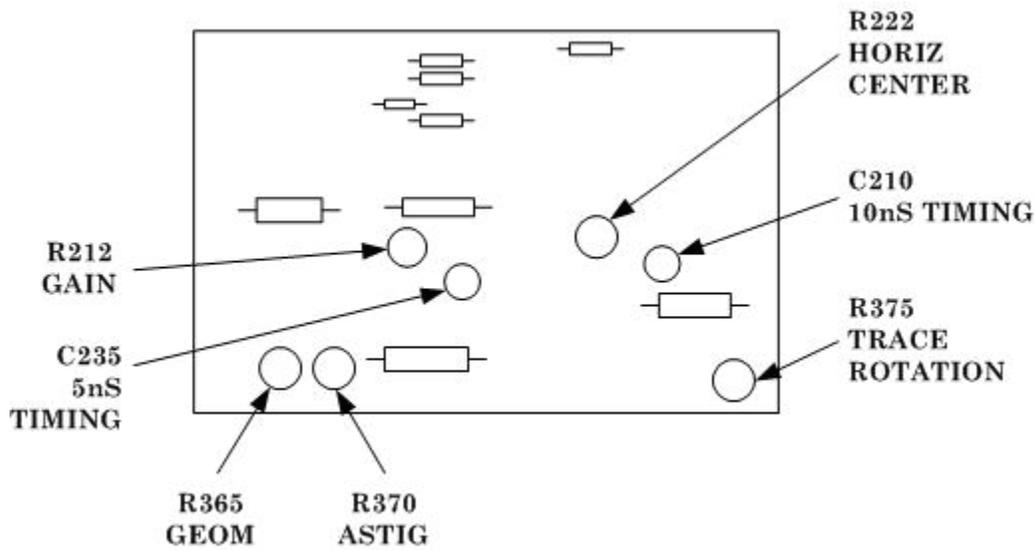

Figure 3. Horizontal circuit board (top).
(3) Adjust TI **INTENSITY** control for a normal display.
(4) Set time base **MAIN SEC/ DIV** switch to **AMP** (fully ccw) and adjust TI **FOCUS** control fully cw. If displayed spot on TI screen is not round, perform **b** below. It may be necessary to readjust **INTENSITY** control.
(5) Set time base **MAIN SEC/DIV** switch to **1 ms**.
b. Adjustments. Adjust R370 **ASTIG** (fig. 3) and TI **FOCUS** control simultaneously to obtain best defined spot on TI screen.
b. Adjustment. Adjust R375 TRACE ROTATION (fig. 3) until trace is aligned with TI center horizontal graticule line.
- (1) Press TI **POWER** switch to off.
- (2) Remove time base from TI right compartment and install in center compartment.
- (3) Remove vertical amplifier from TI left compartment and install in right compartment.
- (4) Pull TI **POWER** switch to on.
- (5) Adjust TI **FOCUS** and **INTENSITY** controls for a well defined trace that extends vertically above and below graticule area.
(6) Adjust vertical amplifier **POSITION** control to move TI trace across entire graticule area. If trace bows or tilts greater than 0.1 division anywhere in graticule area, perform **b** below.
b. Adjustment. Adjust R365 GEOM (fig. 3) for minimum bowing or tilt of trace at left and right edges of graticule. It may be necessary to readjust R365 (fig. 3) to obtain less than 0.1 division of bowing and tilt everywhere in graticule area.
(1) Pull TI **POWER** switch to on. If a vertical trace is not displayed within ± 0.5 division of TI center vertical graticule line, perform **b** below.
b. Adjustments. Adjust R222 **HORIZ CENTER** (fig. 3) to position trace to TI center vertical graticule line.
(1) Set calibration fixture **TEST** switch to **VERT OR HORIZ GAIN** and adjust **POSITION** control to align bright center trace on TI with center vertical graticule line.
(2) If center seven traces do not coincide within ± 0.25 division of respective vertical graticule lines, perform **b** below.
b. Adjustments. Adjust R212 **GAIN** (fig. 3) for a 6 division deflection over center seven vertical graticule lines (R).